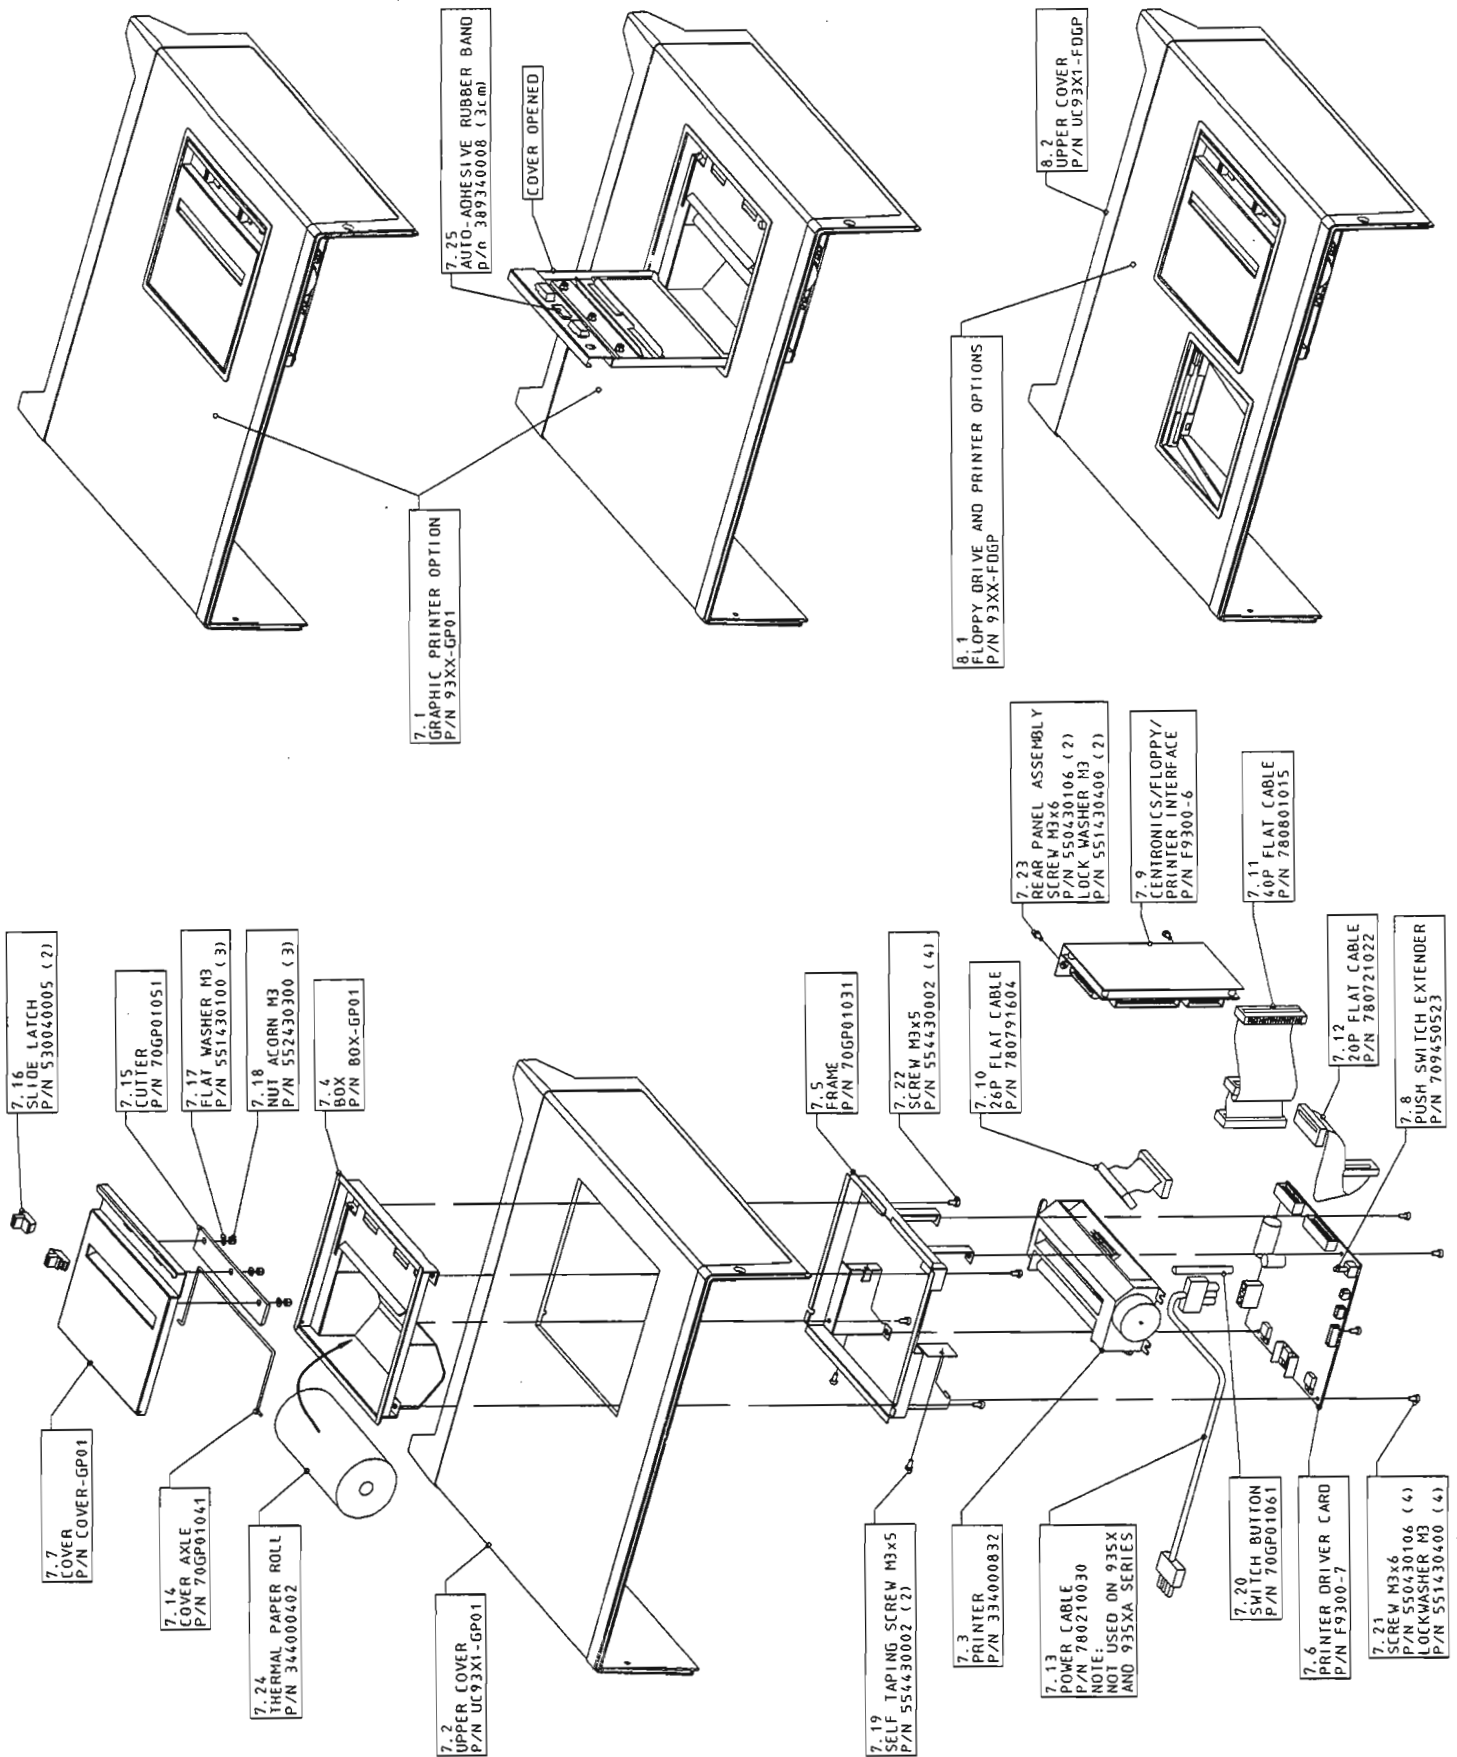

Figure 6.7 : Graphic Printer Assembly
- Disconnect the power cable from the PS9351 power supply ( see figure 6.7 ).
- Disconnect the flat ribbon cable ( 780791604 ) from the F9300-7 controller ( see figure 6.7 ).